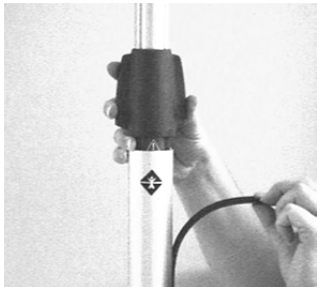

Figure 32
1. Remove plastic strips from the sides of the posts. To remove, take one end of the strip and gently pull outward (see Figure 32).